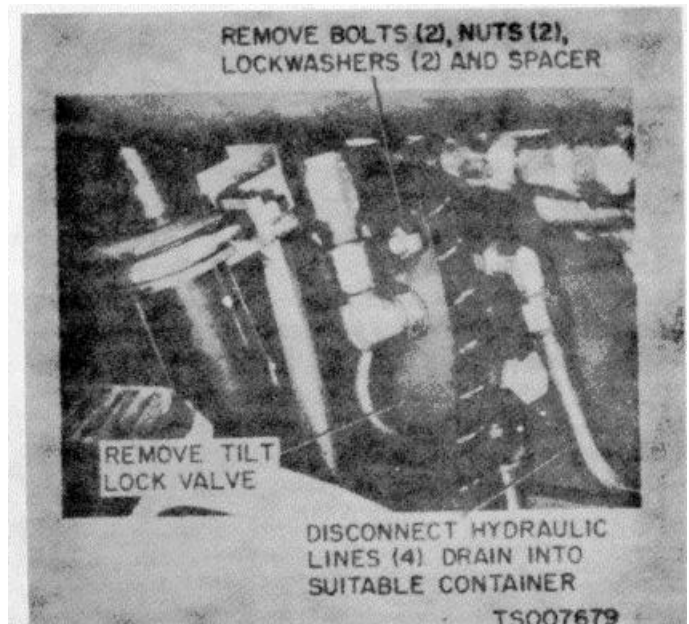

Figure 4-6. Tilt-Lock Valve, Removal and Installation
a. Removal. Remove the tilt-lock valve as shown in figure 4-6.
- (1) Clean the tilt-lock valve with a cloth dampened with dry cleaning solvent P-D-680.
- (2) Inspect the valve body for cracks, signs of leaking, and other damage.
- (3) Inspect the inlet and outlet ports for obstructions and for damaged threads.
- (4) Replace a defective valve.
c. Installation. Install the tilt-lock valve as shown in figure 4-6.